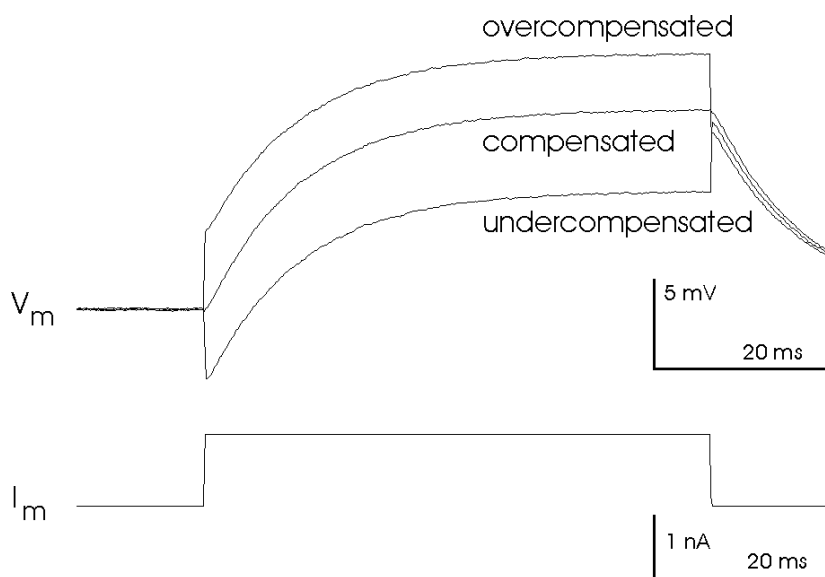

Figure 12: Adjustment of the bridge balance after penetrating a cell
- ☐ If necessary readjust the BRIDGE BALANCE as shown in Figure 12.